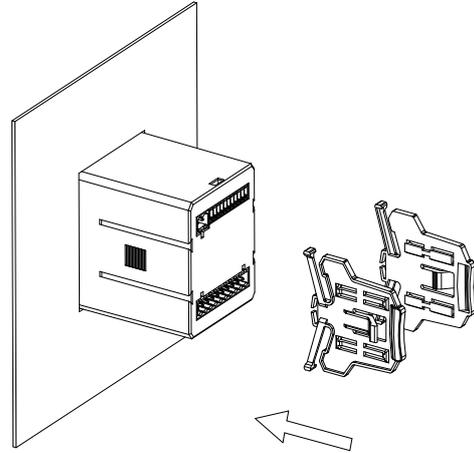

Figure 6
- 4) Insert the meter clip to secure the meter, as shown in Figure 6.